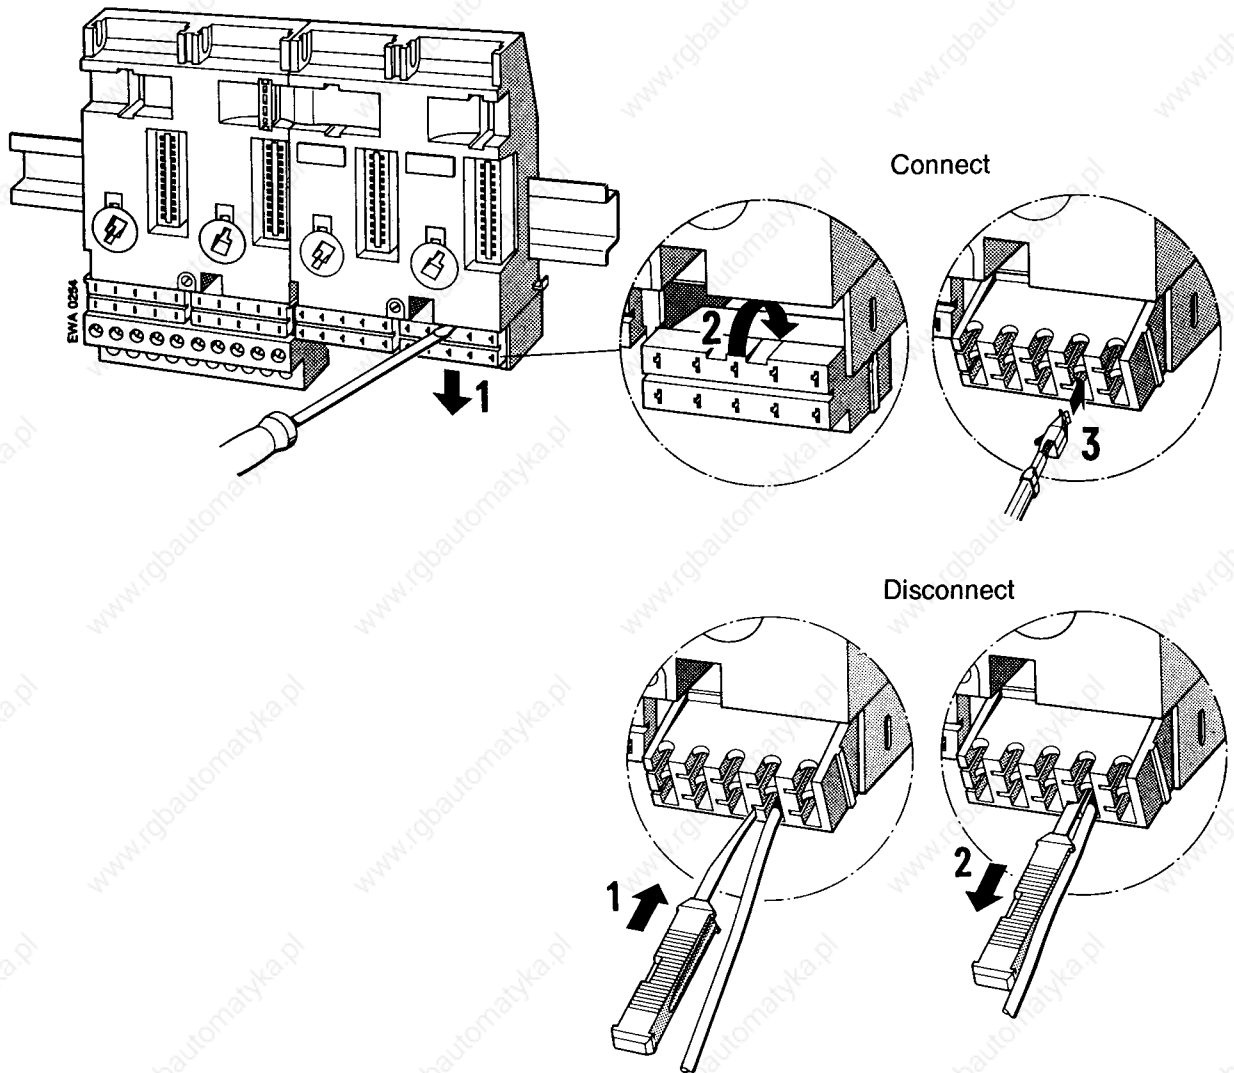

Figure 3-16. Connecting and Disconnecting Crimp Snap-In Contact
How to Connect the Contact to the Terminal Block (see Figure 3-16)
- ▶ Position the terminal block as is shown in Figure 3-16.